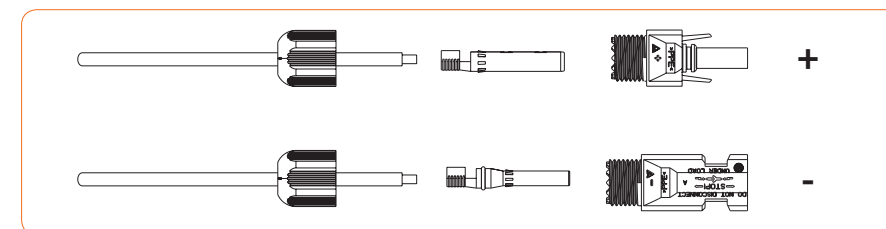

Figure 4-15
③ Disassemble the connector in the accessory bag, as shown in Figure 4-15: